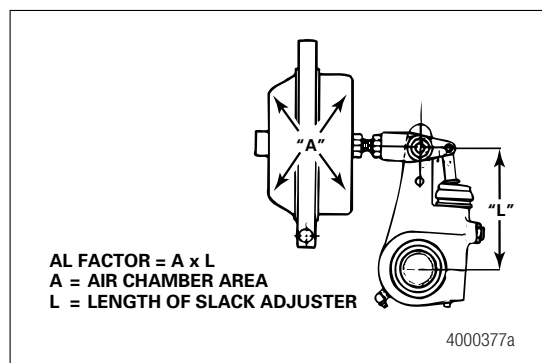

Figure 7.6
8. The air chamber area multiplied by the length of the automatic slack adjuster is called the AL factor. This number must be equal for both ends of a single axle and all four ends of a tandem axle. Figure 7.6.